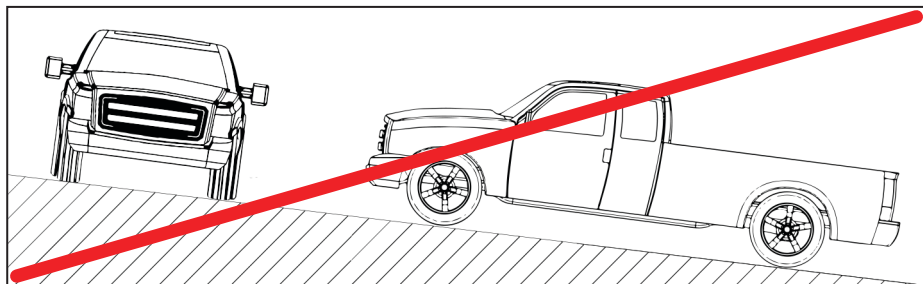

Figure 10 — Do not exceed 20° grade
- ☐ Ensure the vehicle the system is mounted to is not parked on grades exceeding 20° as this will affect lubrication and air/oil separation (Figure 10).